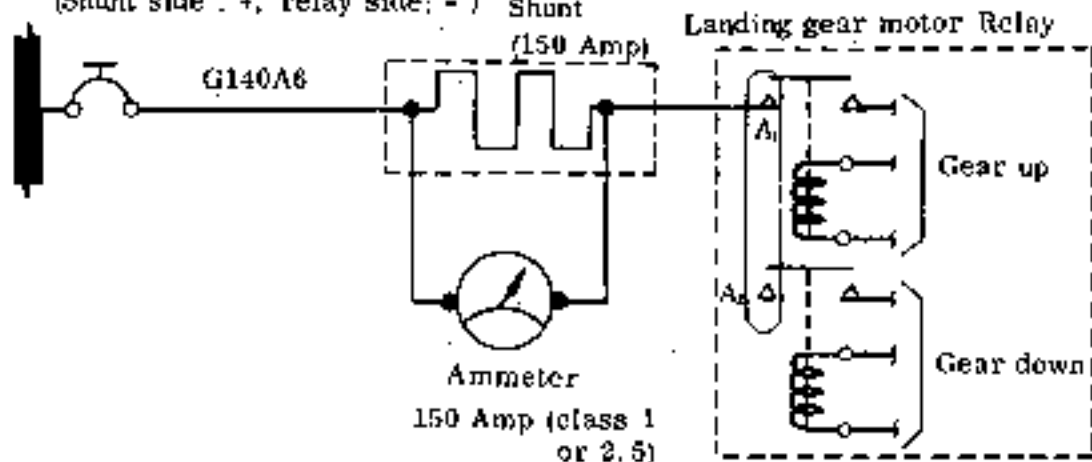

Fig. 4-49 Measurement of landing gear motor current
- (1) Open access door at attaching point of landing gear motor relay, rear bulkhead in R.H. bulge.
- (2) Disconnect wire G140A6 connected to relay terminal A₁ (or A₂) which is short-circuited at gear motor bus bar.
- (3) Connect a wire (MIL-W-5086 Type II AN-8) 6 in. (152 mm) to the terminal A₁ (or A₂) and connect wire G140A6 as shown in Fig 4-49. (Shunt side . +, relay side: -) Shunt